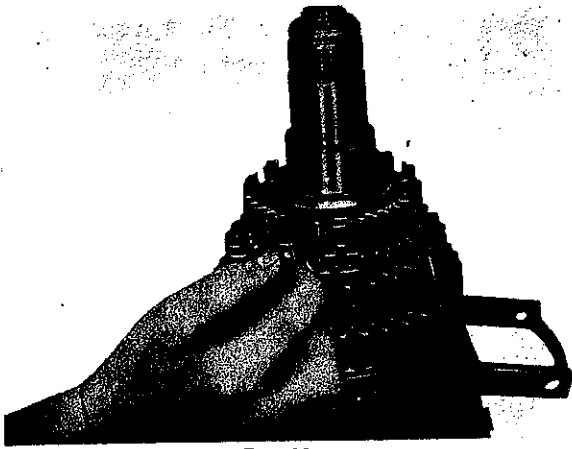

Fig. 32
12. Place blocking ring (402) on cone of second gear wheel (teeth down). Heat synchronizer (416) to approx. 80° C and press-on with installation bushing .10. Insert circlip (415). Circlip (415) should be seated tightly in groove. Available ring thickness: 2.4 and 2.5 mm.
13. Glue one compression spring (406), one ball pin (405) and one thrust piece (404) each with grease into bores of synchronizer (Fig. 32).